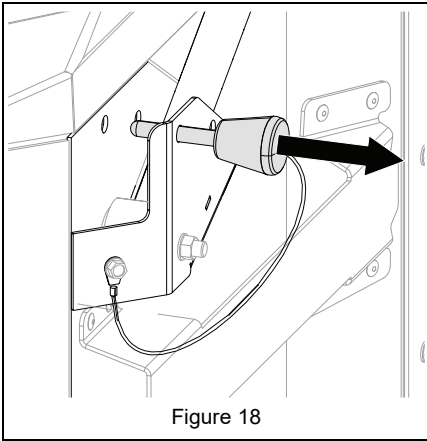

Figure 18
1. Remove pins from bracket. See Figure 18.